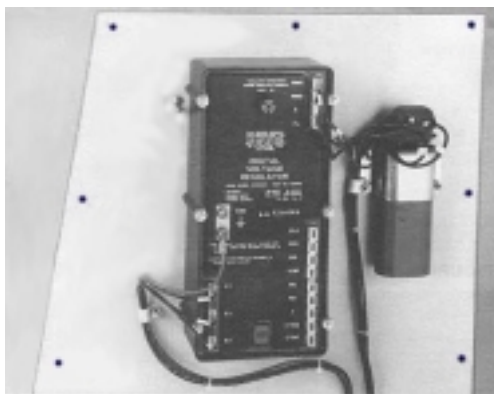
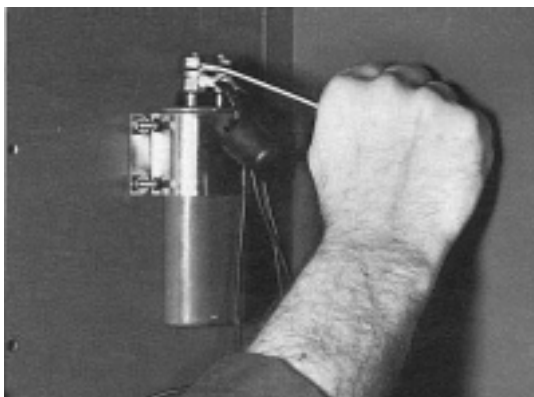

Figure 6-4
Figure 6-5
1. Note the location and markings (re-mark as required) and remove connections from voltage regulator (Figure 6-4), capacitor (Figure 6-5), and any other conduit box mounted controls.